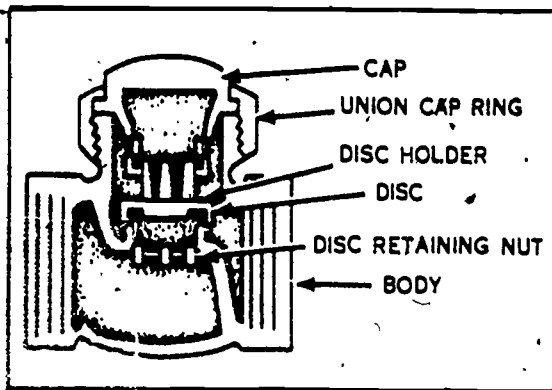

Figure 1-42 Cross section of a lift check valve.
b. Lift check valve. A lift check valve, of which a cross section is shown in figure 1-42, contains a disc which seats on a horizontal bridge wall in the valve body. The disc moves up to open and is raised from its seat by the pressure of the fluid flow. To insure proper seating and rising, the disc is provided with short guides, which are usually above and below the disc.